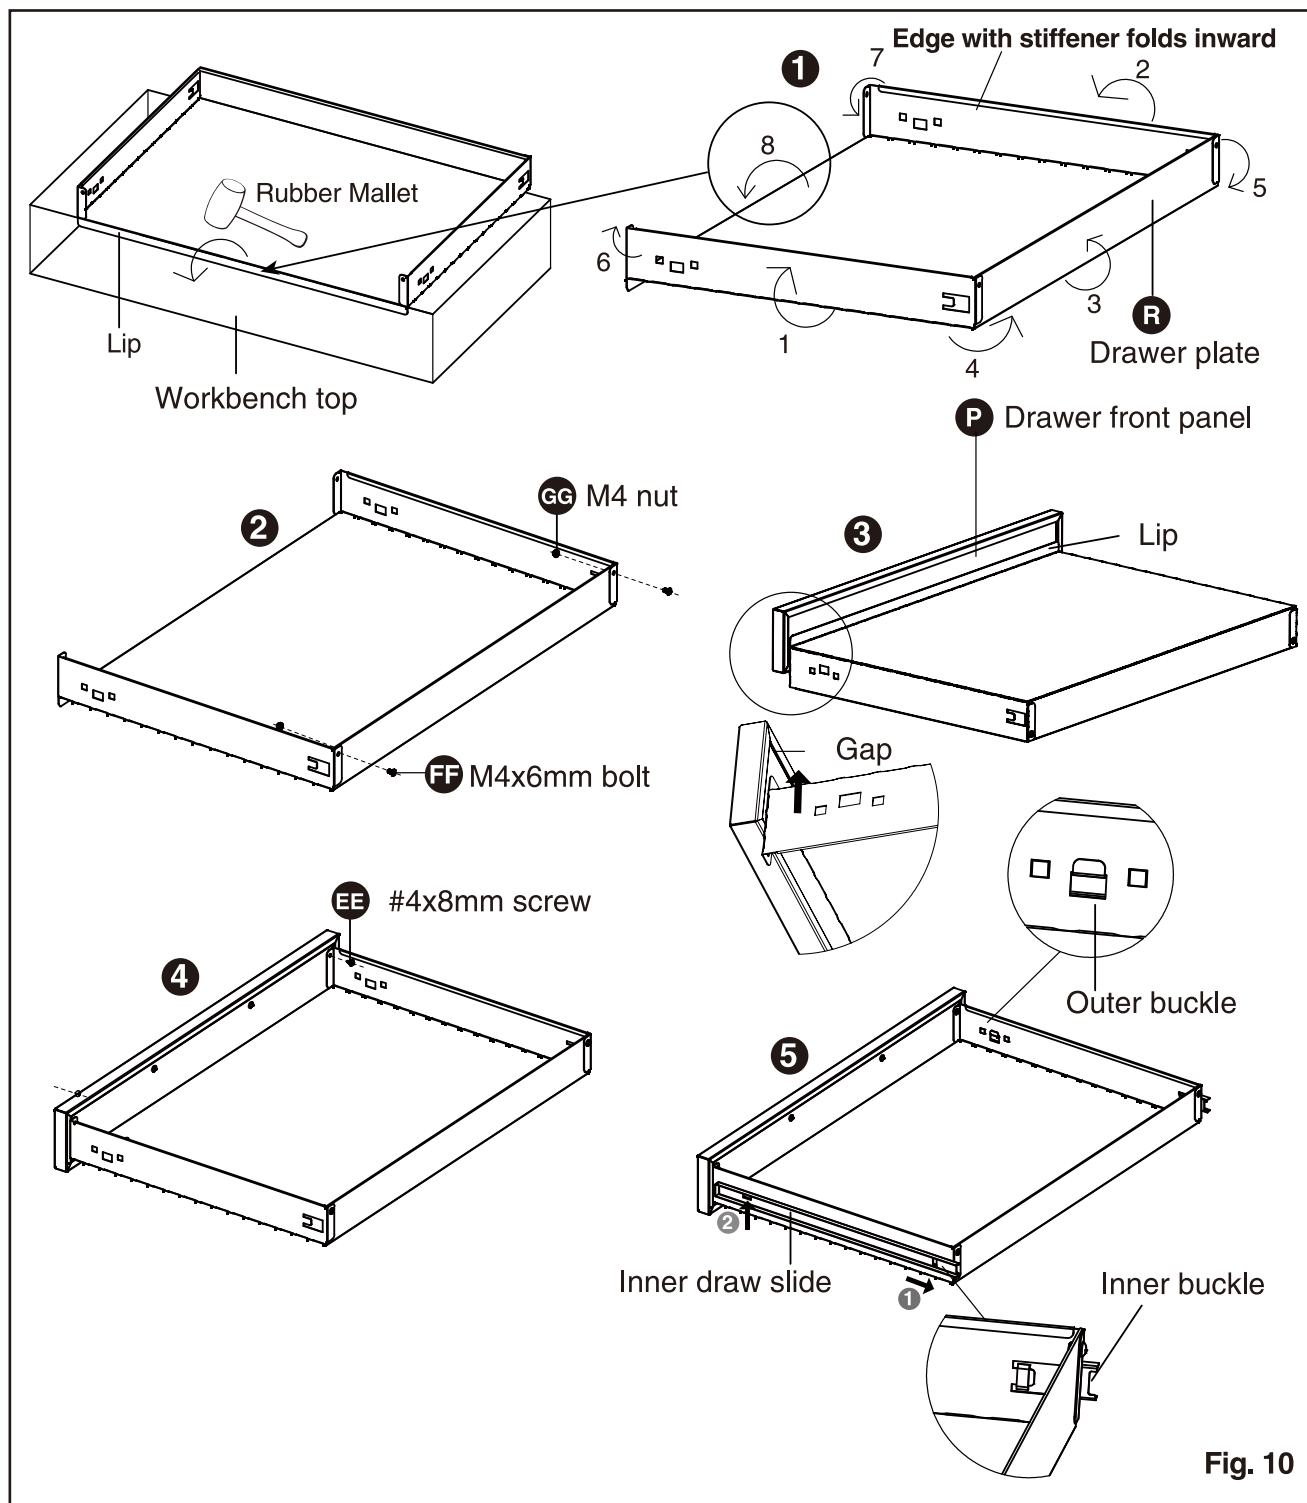

Fig. 10
- Fold up the four sides of the drawer plate (R) along the dotted line (referred to the following Fig.10). It is recommended to operate on a right-angled edge of workbench to create a flat lip by using a rubber hammer.
- Fix the back of drawer with two M4x6mm bolts (FF) and M4 nuts (GG) for each drawer by a PH2 Phillips screwdriver and 7mm wrench.
- Insert the lip of drawer into the gap of drawer front panel (P), align the holes in the drawer with drawer front panel (P), and securing with two #4x8mm screws (EE) and tighten to desired tightness by a PH2 Phillips screwdriver.